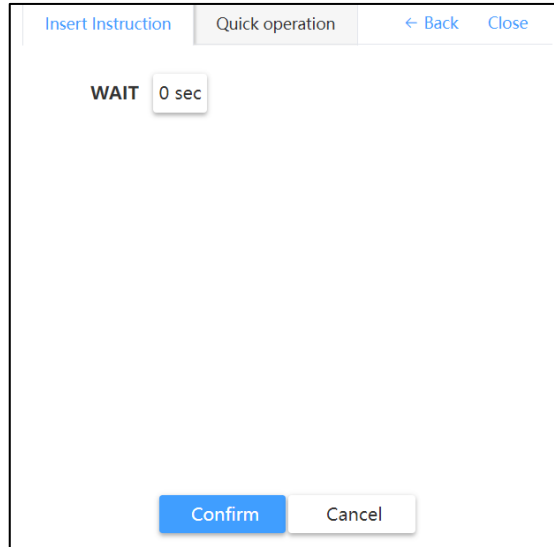
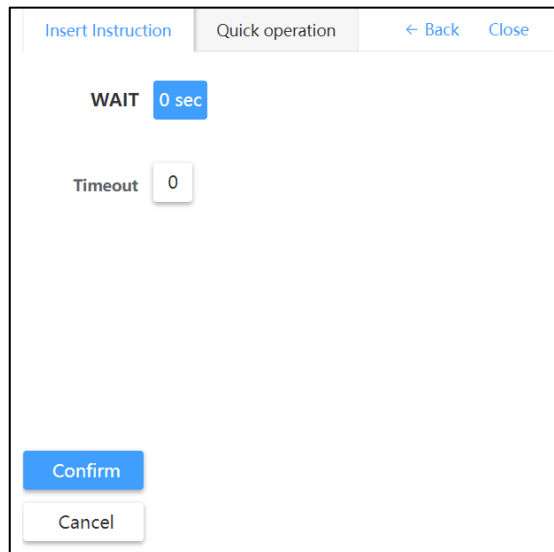

Fig. 4.29 WAIT TIME Instruction Parameter Filling Interface
Fig. 4.30 WAIT TIME Instruction Parameter Filling Interface
Click "WAIT TIME" to enter the WAIT TIME instruction parameter filling interface, as shown in Fig. 4.29.
Click "0sec" in Fig. 4.29 to pop out the interface shown in Fig. 4.30.
Click "0" in Fig. 4.30 to set the timeout time. There are two data types for the timeout time: constant and number register (R).